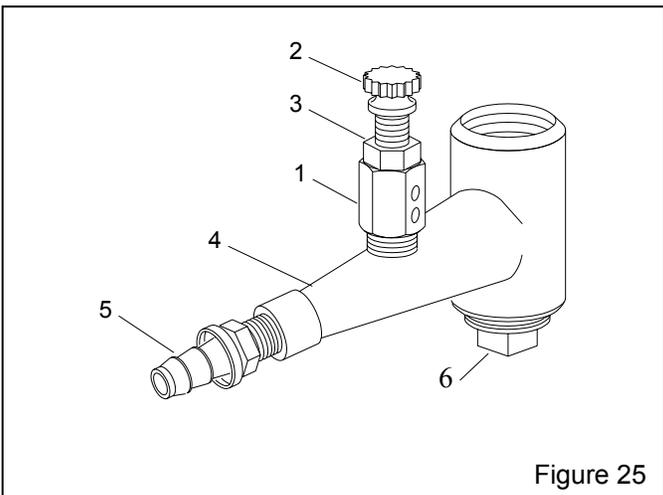

Figure 25
9.6 Metering valve assembly, Figure 25